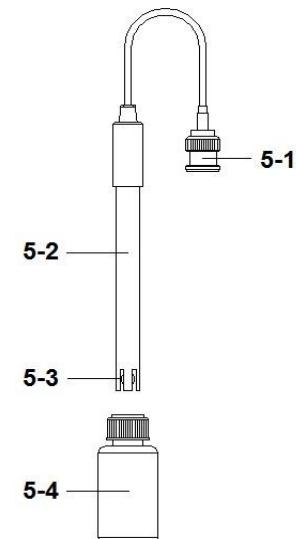

Fig. 2
2. Connect the pH electrode (optional) (5-1, Fig.2) into the pH (BNC socket) (3-16, Fig.1)
5. Hold the electrode handle (5-2, Fig. 2) by hand and let the sensing head (5-3, Fig. 2) immersed wholly into the measured solution and little shake the electrode.
NB! When not use the Electrode, it should immerse the "Electrode sensing head" (5-3, Fig. 2) into the "Protection bottle" (5-4, Fig. 2)
4. Hold the electrode handle (6-2, Fig. 2) by hand and let the sensing head (6-3, Fig. 2) immersed wholly into the measured solution and little shake the electrode, to let the probe's internal air bubble drift out from the sensing head